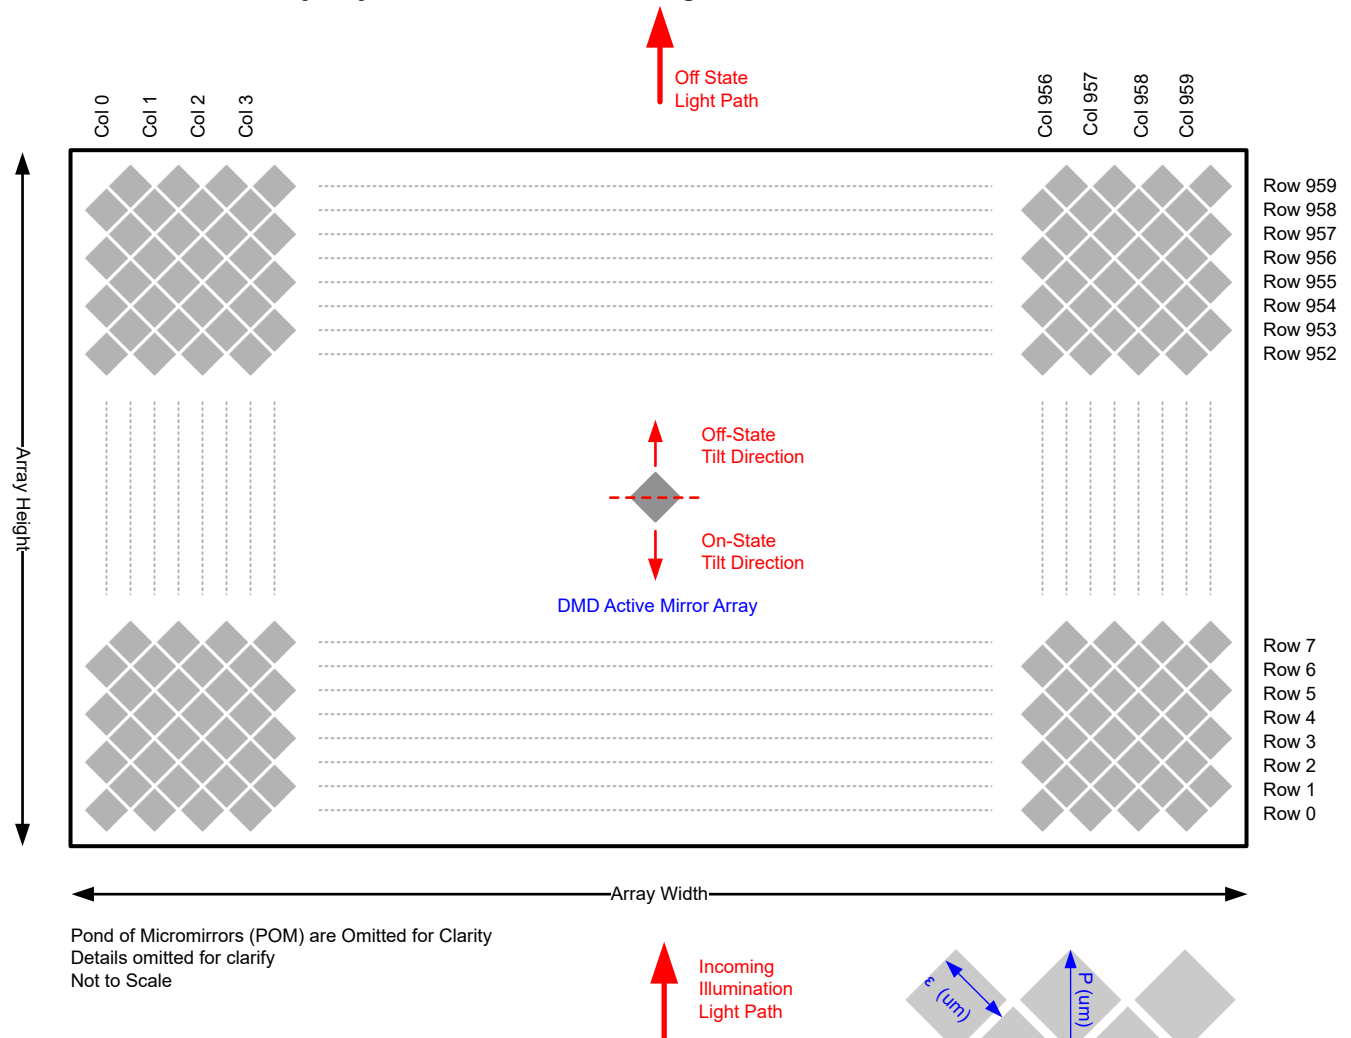

Figure 5-13. Micromirror Array Physical Characteristics
- (1) See Figure 5-13.
- (2) The structure and qualities of the border around the active array includes a band of partially functional micromirrors called the POM. These micromirrors are structurally and/or electrically prevented from tilting toward the bright or ON state, but still require an electrical bias to tilt toward OFF.